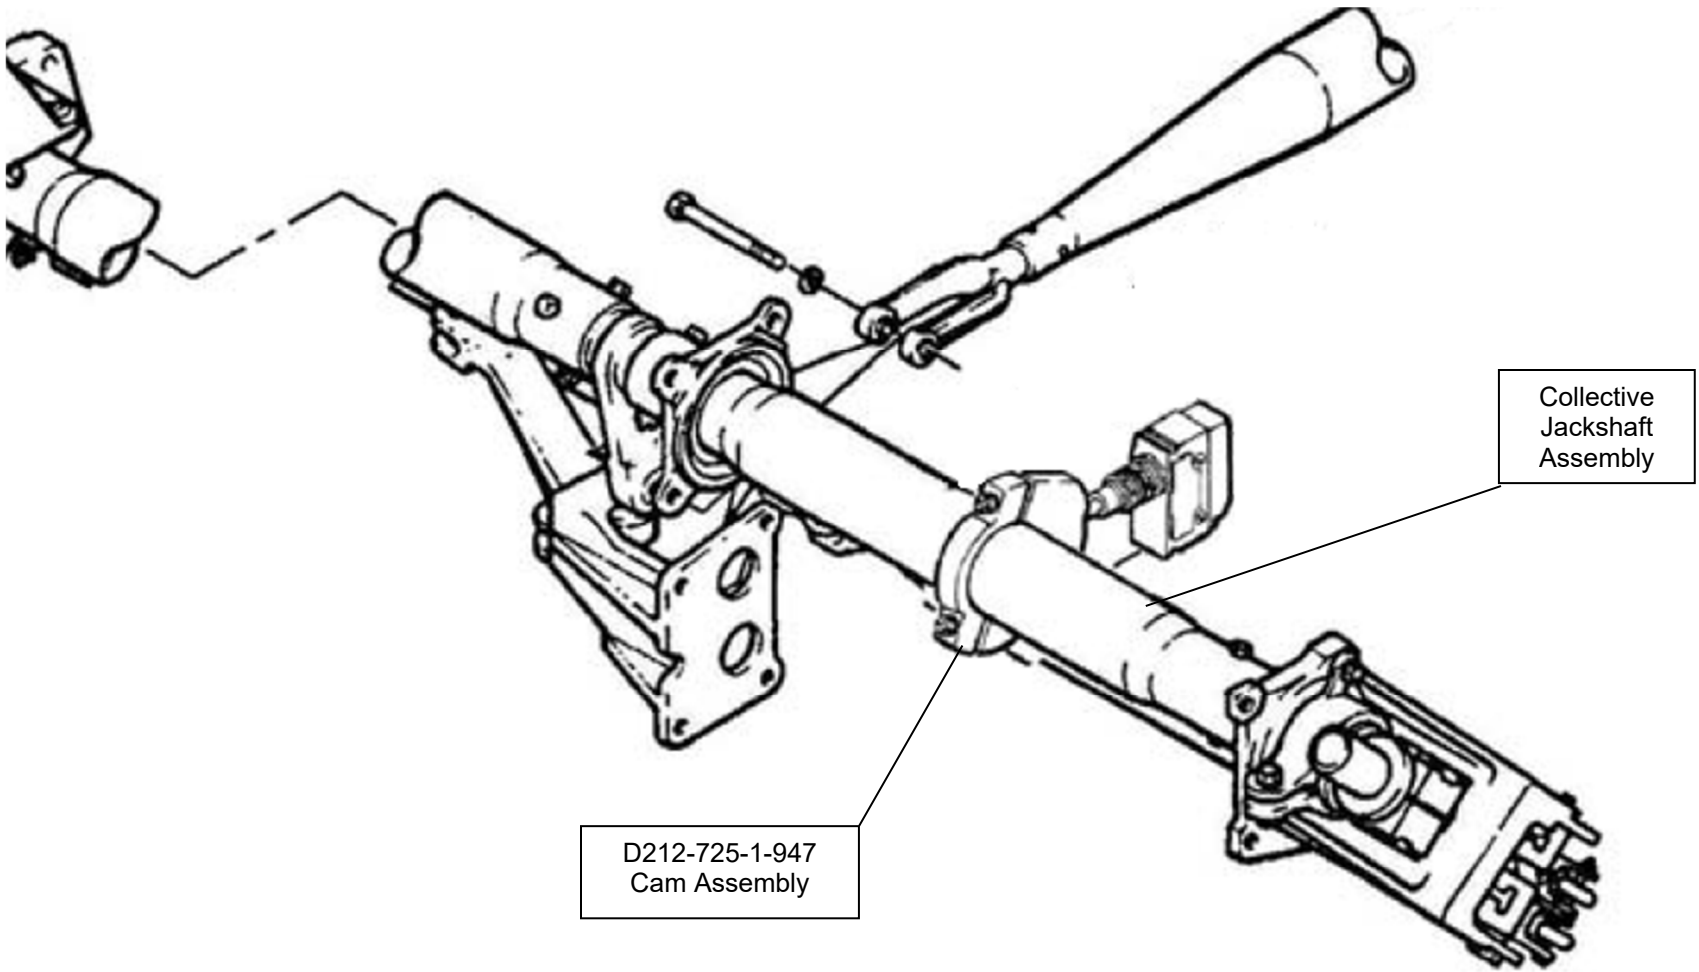

Figure 4 – Cam Assembly Installation Diagram
5. Install cam assembly in accordance with Figure 4.
3. Install cam assembly in accordance with Figure 4.